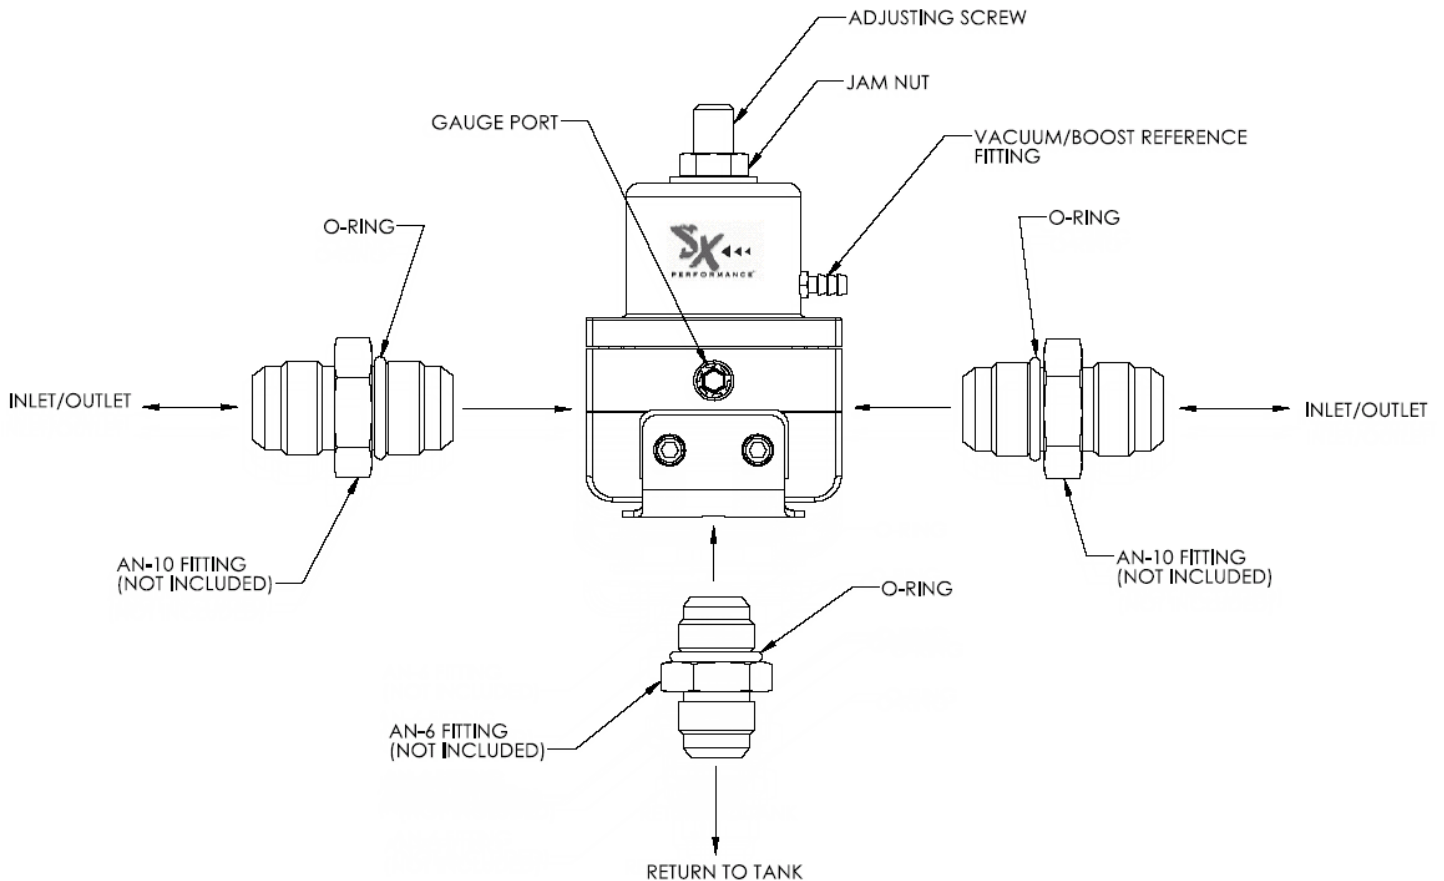

Figure 1 – SX Performance™ Model 15402 Fuel Pressure Regulator
5. Install the o-rings and fittings as shown in Figure 1. AN style fitting threads use no thread sealer. Assemble the bracket and regulator as shown in Figure 1 and install the regulator and bracket assembly at the desired location.
6. Connect and tighten fittings to the inlet and outlet fuel lines, see Figure 1. Connect the return line to the bottom return port of the regulator. The bottom port (labeled return in figure 1.) must be used and is not interchangeable with the inlet/outlet ports. The regulator must be plumbed from this port to the fuel tank. The return line must be at least 3/8" line size (-6) or larger, and plumbed using AN-6 union fitting, or a reducer fitting from the bottom port of the regulator to the fuel tank or cell. Avoid sharp bends and 90° fittings where possible. This would result in a restriction on the return fuel flow and will cause the fuel pressure to remain high, not allowing adjustment to the desired set pressure.
7. Coat the threads of the boost reference/vacuum fitting with thread sealer (not supplied) and install it into regulator port as shown in Fig. 1. Check for leaks around threads after curing. Connect the vacuum line to the boost reference/vacuum fitting on the regulator if so equipped. If no boost/vacuum reference is being utilized, leave the fitting or hole in the regulator cover open to atmosphere.